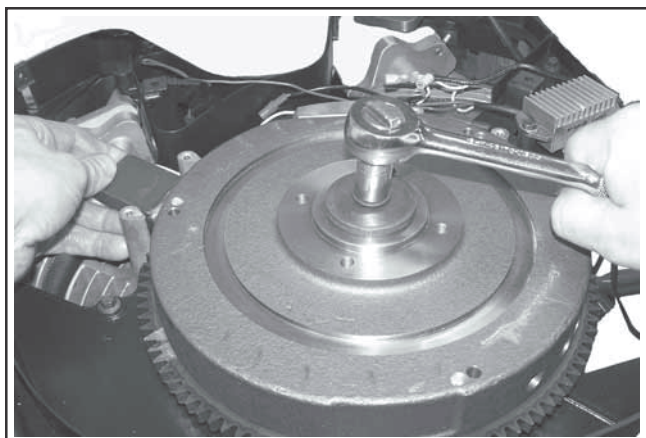

Figure 8-30. Removing Flywheel Fastener Using Holding Tool.
1. Use a flywheel strap wrench or holding tool (see Section 2) to hold the flywheel and loosen the hex flange screw securing the flywheel to the crankshaft. See Figure 8-30.